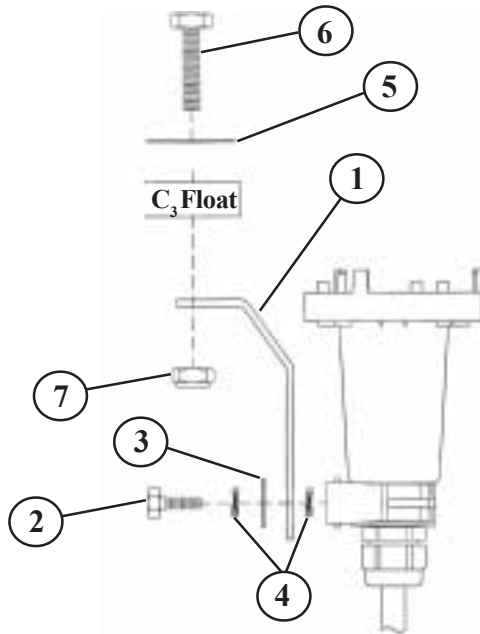

Figure 2
A. Refer to the Figure 2 and table below. Check that all hardware and parts are included with each kit.
B. The Concept₃ float has light mounting pockets. The light fixtures are designed to be mounted in either of the holes in the float pockets. The lights may also be mounted in the holes around the perimeter of the float. Each fixture is mounted with the bracket on the underside of the float. Secure each bracket to the float using items 5, 6, and 7. Install it with the float between the flat washer and bracket. Snug nut, overtightening will crush the float.